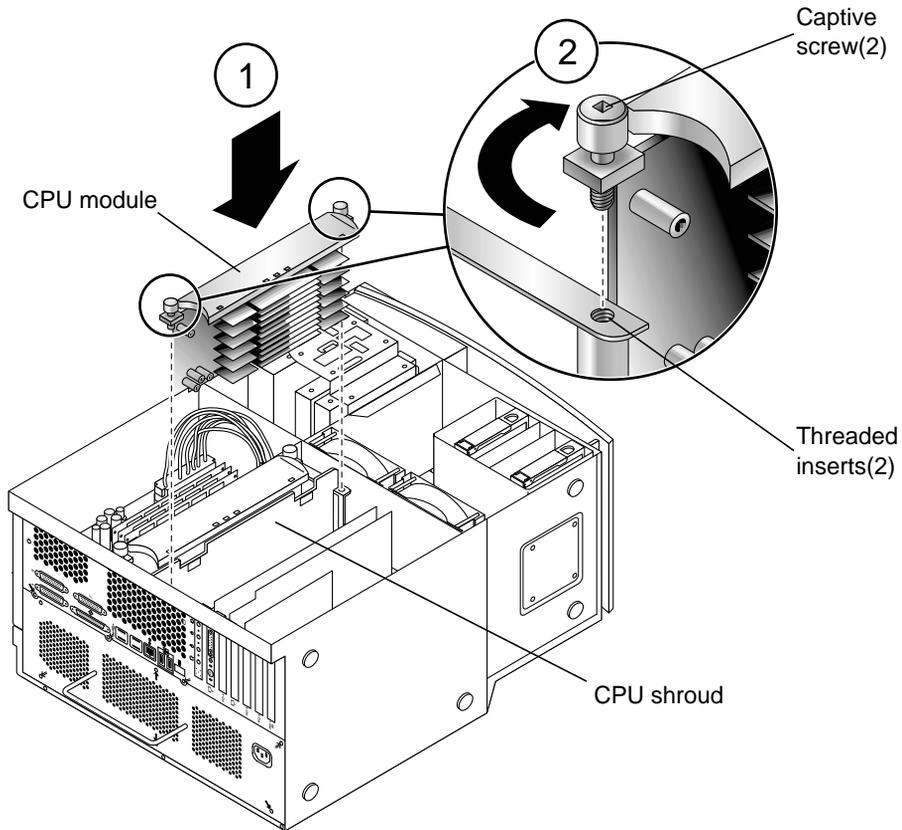

FIGURE 12 Lowering the CPU Module Into the Threaded Inserts
2. Lower the CPU module into the CPU shroud until the captive screws are aligned with the 2 threaded inserts (see FIGURE 12).